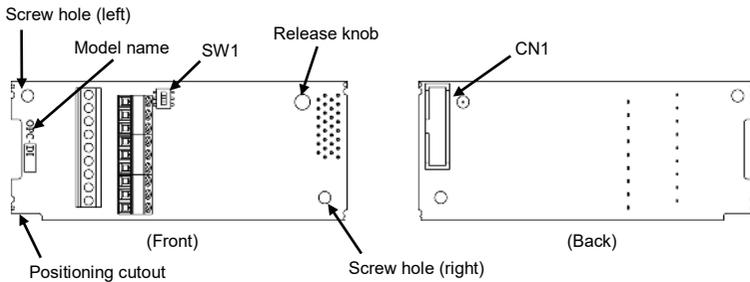

Figure 1.1 Name of Parts on Digital Input Interface Card (OPC-DI)
- (1) An interface card, two screws (M3 × 8), and the Digital Input Interface Card/Digital Output Interface Card Instruction Manual are contained in the package.
- (2) The interface card is not damaged during transportation--no defective parts, dents or warps.
- (3) The following model name is printed on the interface card.
- Digital input interface card: "OPC-DI" (See Figure 1.1.)
- (2) Insert connector CN1 on the back of the interface card (Figure 1.1 or 1.2) into any of the A-port (CN4), B-port (CN5), and C-port (CN6) on the inverter's control PCB. Then tighten the two screws that come with the card. (Figure 1.5)
**Note** Check that the positioning cutout (shown in Figures 1.1 and 1.2) is fitted on the tab (① in Figure 1.4) and connector CN1 is fully inserted (② in Figure 1.4). Figure 1.5 shows the interface card correctly mounted.
- (3) Perform wiring on the interface card.